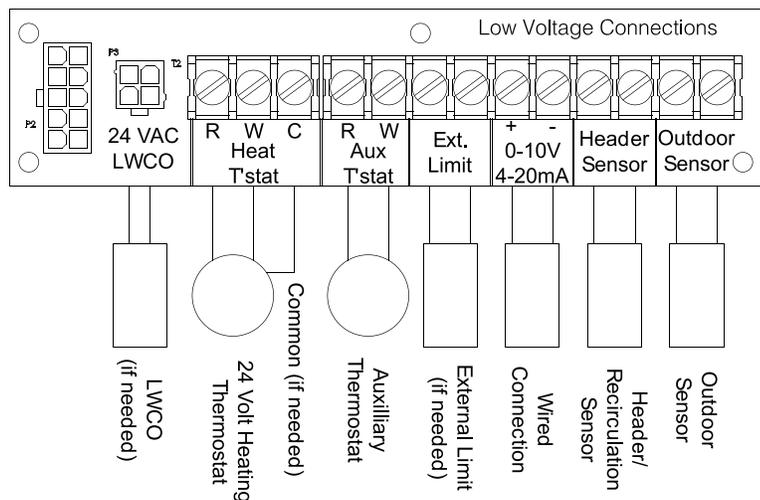

Figure 13-3: Low Voltage Connections
- Connect jumper, time of day clock or momentary push button to "Aux T-Stat" terminals per Figure 13-3.
- Connect recirculation temperature sensor to "Header Sensor" terminals per Figure 13-3.
NOTICE: Boiler is equipped with a UL 353 listed high water temperature limit. This limit provides boiler shutdown in event boiler water temperature exceeds set point of control. Certain local codes require an additional water temperature limit. If necessary, install an additional water temperature limit (Honeywell L4006 Aquastat). Wire as indicated in Figure 13-3.
1. All low voltage field connections to boiler are made on Low Voltage Connections terminal strip (see Figure 13-3) located on left side of bottom panel. Route all low voltage wiring through conduit knock out holes located on left side in front of terminal strip.